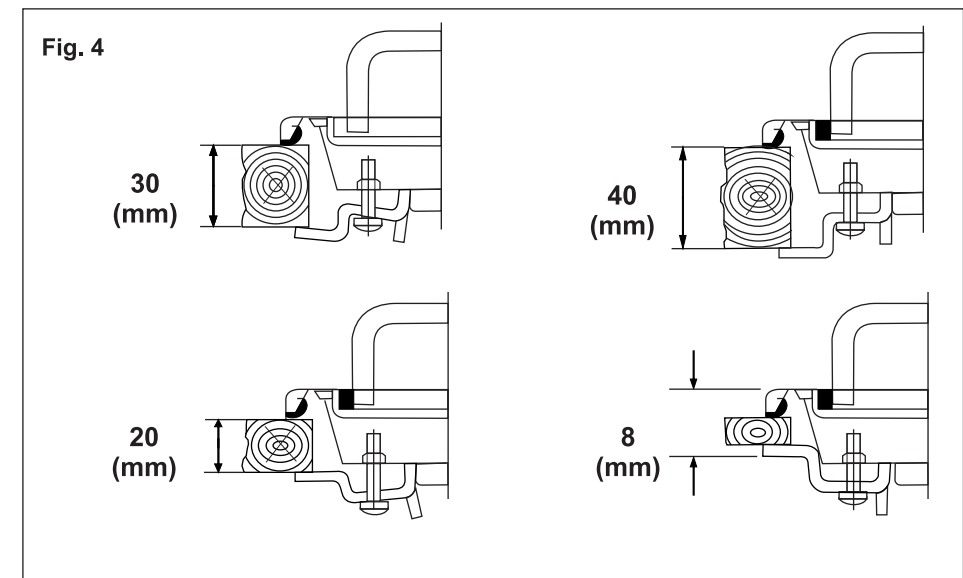

Fig. 4
- ◆ Fasten the hob to the unit with the fastening brackets (see fig. 4). The traction of the screws will be enough to cut the sealing gasket so that the excess can easily be removed.